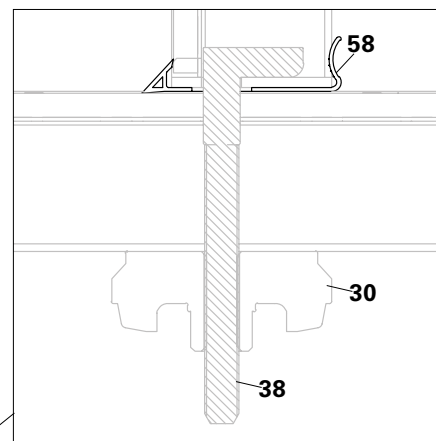

Fig. A8.03b
3. Insert the HSA corner connector DW 15 (38) through the panel frame and tighten it from the outside by means of the wingnut counterplate DW 15 (30). (Fig. A8.03b)